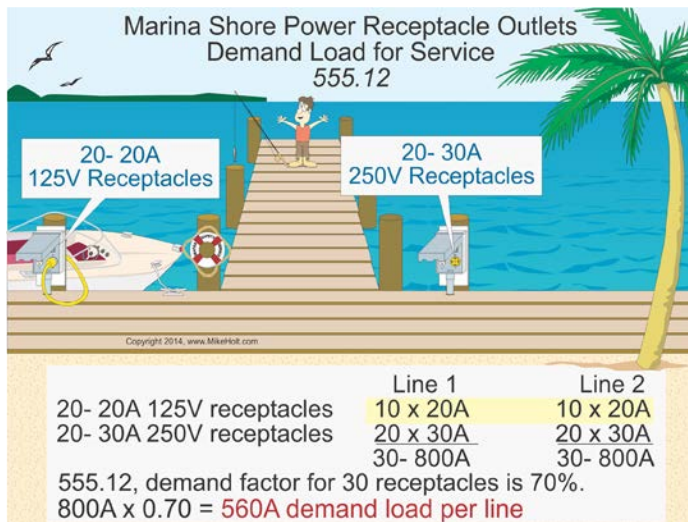

Figure 555–12
**Question:** What size 120/240V, single-phase service is required for a marina with twenty 20A, 125V receptacles, and twenty 30A, 250V receptacles? **Figure 555–12**